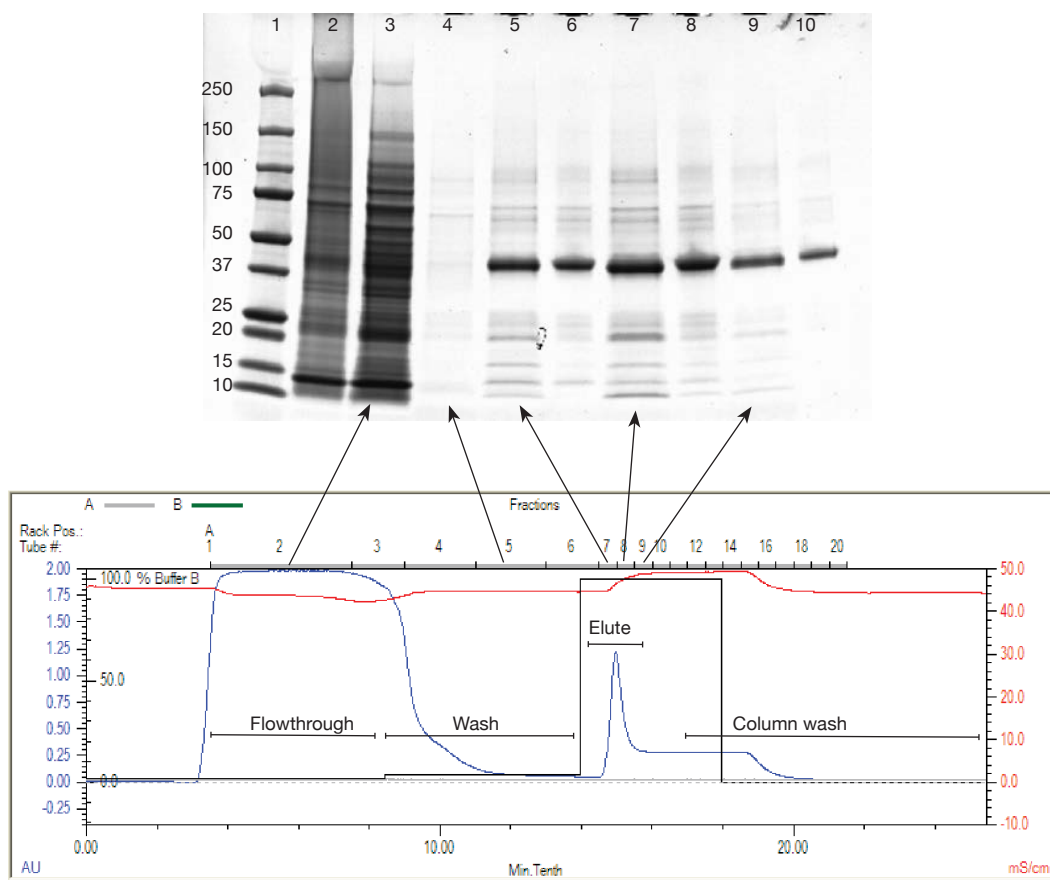

Figure 8.30. Example of fractions selected from the chromatogram and the corresponding SDS-PAGE results.
- Pick the desalted GST-DHFR-His fraction that has the highest concentration (darkest band) but also looks the most pure on the SDS-PAGE gel to analyze enzymatic activity (Figure 8.30). The most pure sample would show an obvious dark band for GST-DHFR-His and few or faint bands at other molecular weights in the lane on the SDS-PAGE gel.